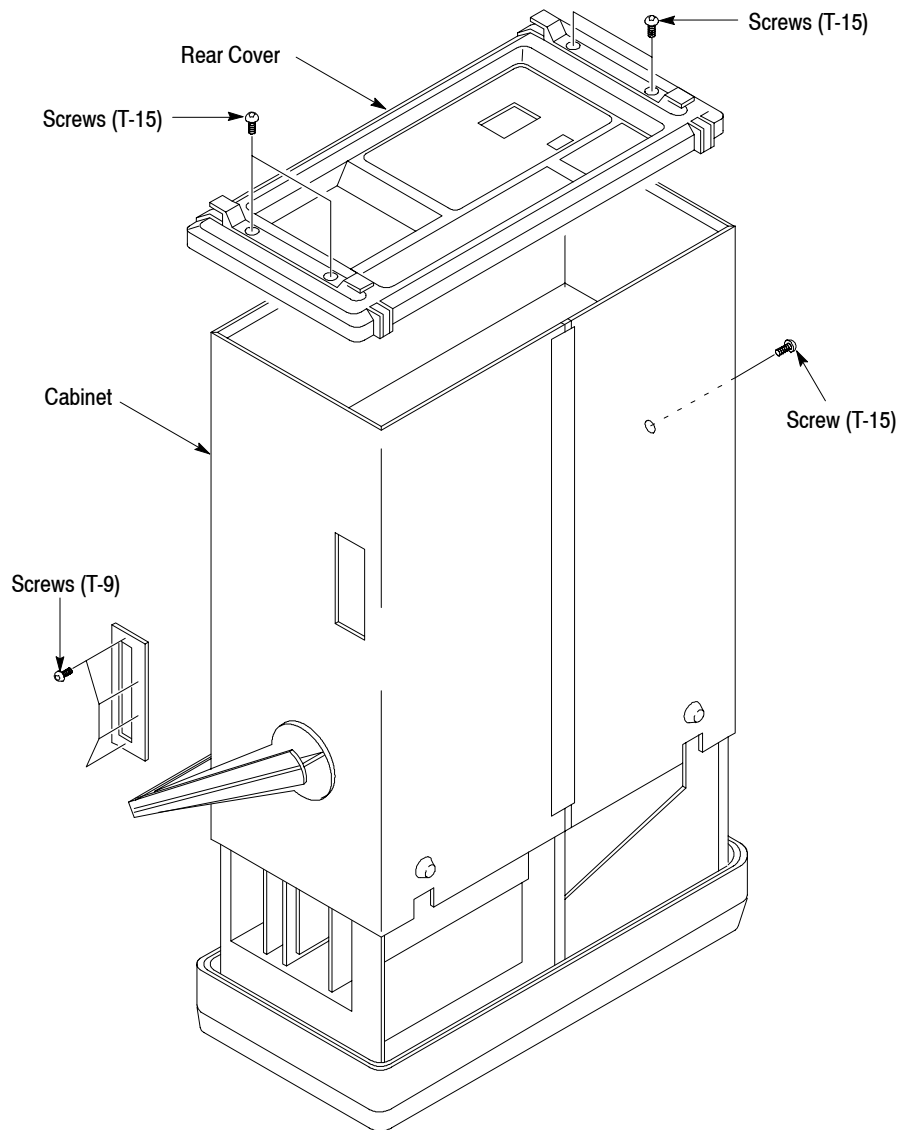

Figure 2: Rear cover and cabinet removal
2. Set the DG2030 so that it is face down, with the front cover (optional accessory) on the work surface and the instrument bottom facing you (see Figure 2).